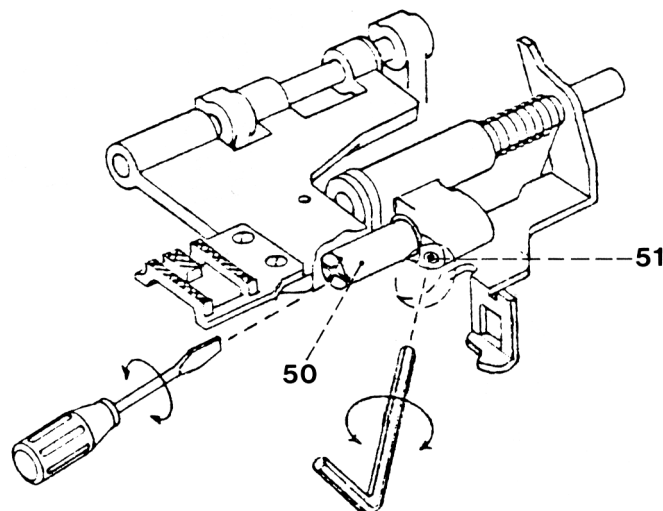

Fig. 14a
- Loosen screw 51 with a 2.0 mm Allen key (fig. 14a).